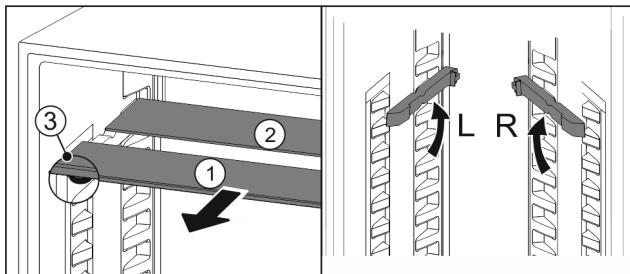

Fig. 119
- ▶ Pull the glass panels out Fig. 119 (1) from the front, one at a time.
- ▶ The glass panel Fig. 119 (1) and trim strip are at the front.
- ▶ The stops Fig. 119 (3) point down.